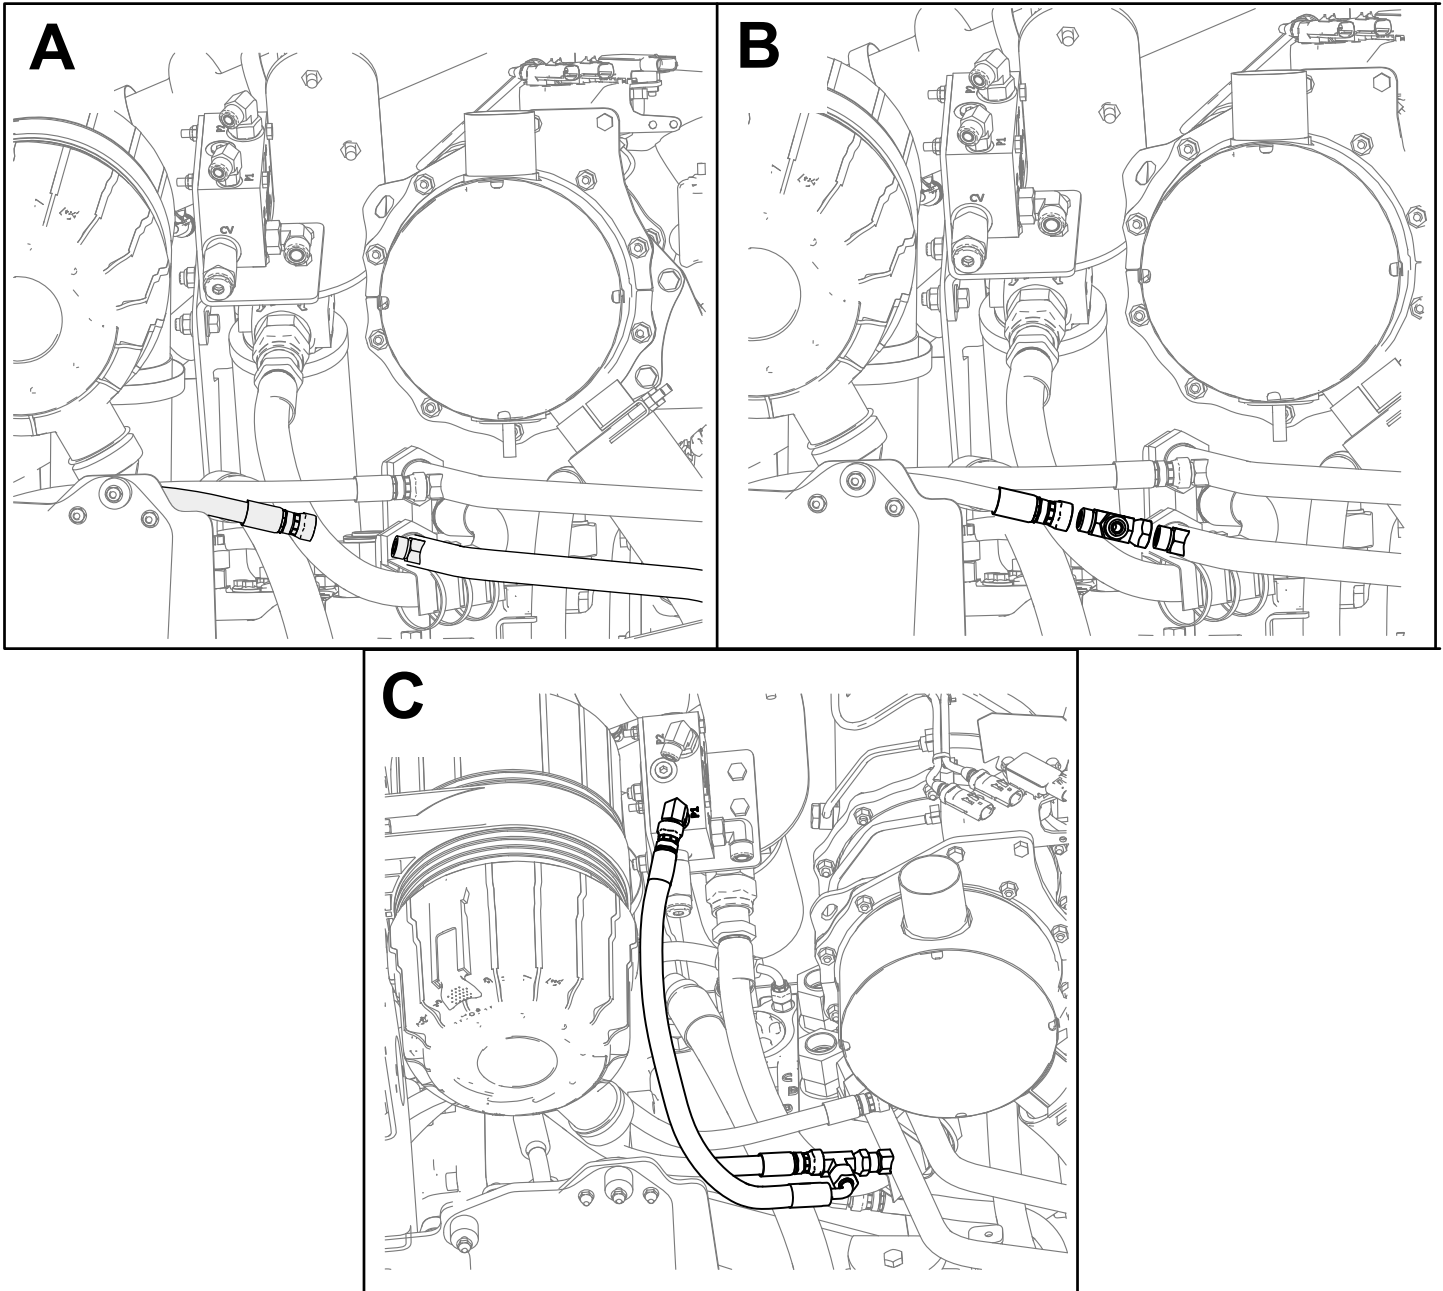

Figure 9
1. Disconnect the hose from the lower hard line going to the rotary hydrostat (Box A of Figure 9).
2. Install a small tee between the hard line fitting and the disconnected hose (Box B of Figure 9).
3. Connect the 45 cm (18-1/2 inch) hose to the P1 fitting to the tee fitting (Box C of Figure 9).